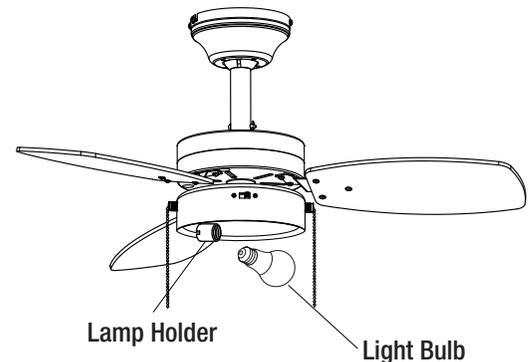

Figure 15
- Install a light bulb (max. 9W, LED, medium screw base) to the lampholder (Figure 15).